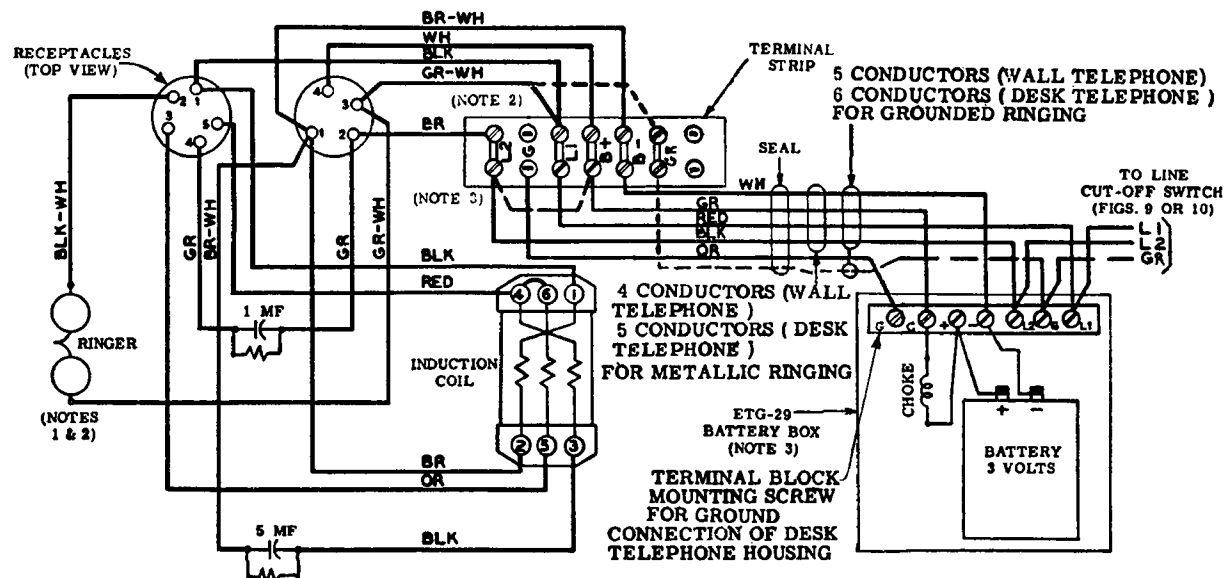
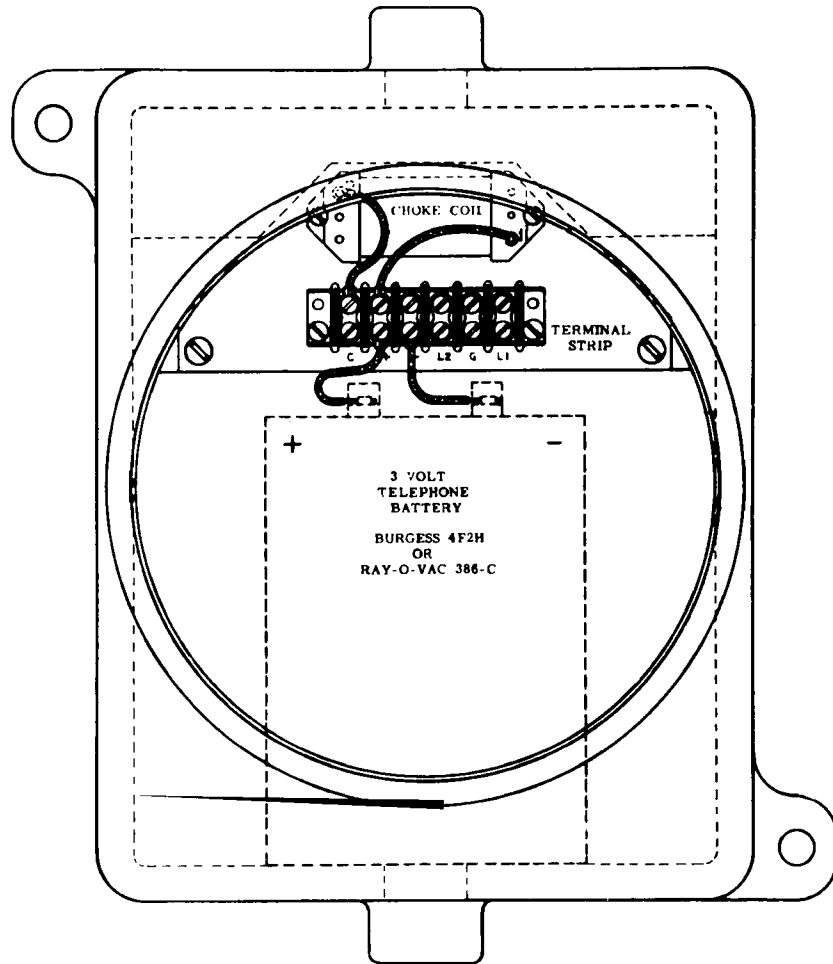

Fig. 13: Wiring Diagram—Magneto Instrument
Fig. 14: Battery Box (Cover Removed)
A line cord assembly is not furnished with the wall-mounting instrument since it is assembled to the battery box with conduit or a close nipple and the wiring is thereafter completed through these vessels. The wiring diagram of the magneto instrument is given in Figure 13.
strip as indicated in Figure 13. Note that for grounded ringing, the green-white ringer lead is moved to terminal G of the base terminal strip. (Desk-type magneto instruments are regularly furnished with the 5-conductor line cord and are wired for metallic ringing. When specified, a 6-conductor cord is provided and the instrument is wired for grounded ringing. No internal wiring changes are therefore required.) Replace the instrument cover on the base, first taking care to insert the cabling plugs into the base sockets. Make certain that the cabling between these sections does not foul up into the instrument mechanism (ringer movement, etc.).
- (g) In the battery box, connect the wires from the instrument and the wires from the line cut-off switch to the terminal strip as shown in Figure 13. Observe color markings when making connections. (The lead represented by the broken line is required only for grounded ringing.) For the actual physical arrangement of the battery box, see Figure 14.
- (d) Place new battery in battery box and connect leads from terminal strip to battery terminals (Figs. 13 and 14).
Conversion of the magneto installation to common-battery manual operation is easily accomplished in the following manner (see Fig. 13):